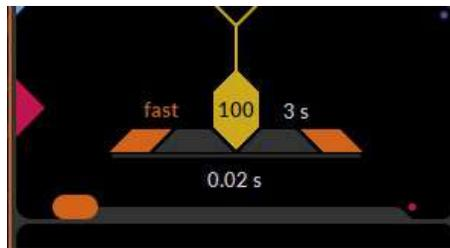

Figure 5.3.3.1 Fast Acquisition Mode Active
This section applies when trying to acquire a series of images over a period of time. The time lapse control region of the Workflow Toolbar is shown in Figure 5.3.3.1:
1. Click on the left orange chevron shown in figure 5.3.3.1. The display will read 'Fast' rather than a numerical value